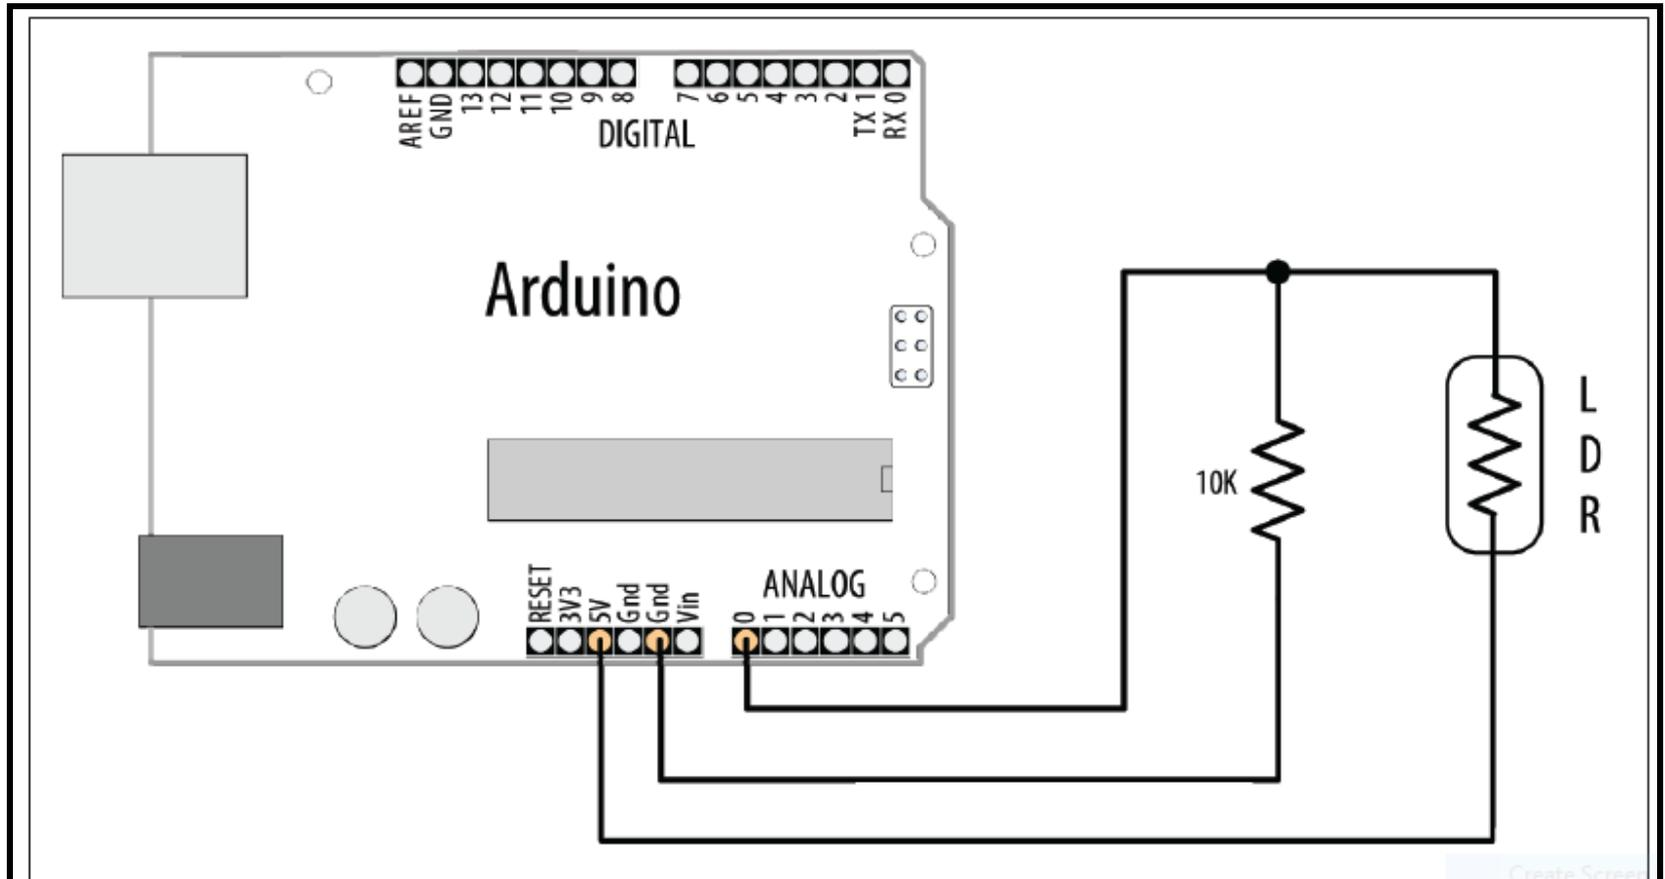

Figure 6-2. Connecting a light dependent resistor
- The easiest way to detect light levels is to use a light dependent resistor (LDR). This changes resistance with changing light levels, and when connected in the circuit shown in Figure 6-2 it produces a change in voltage that the Arduino analog input pins can sense.